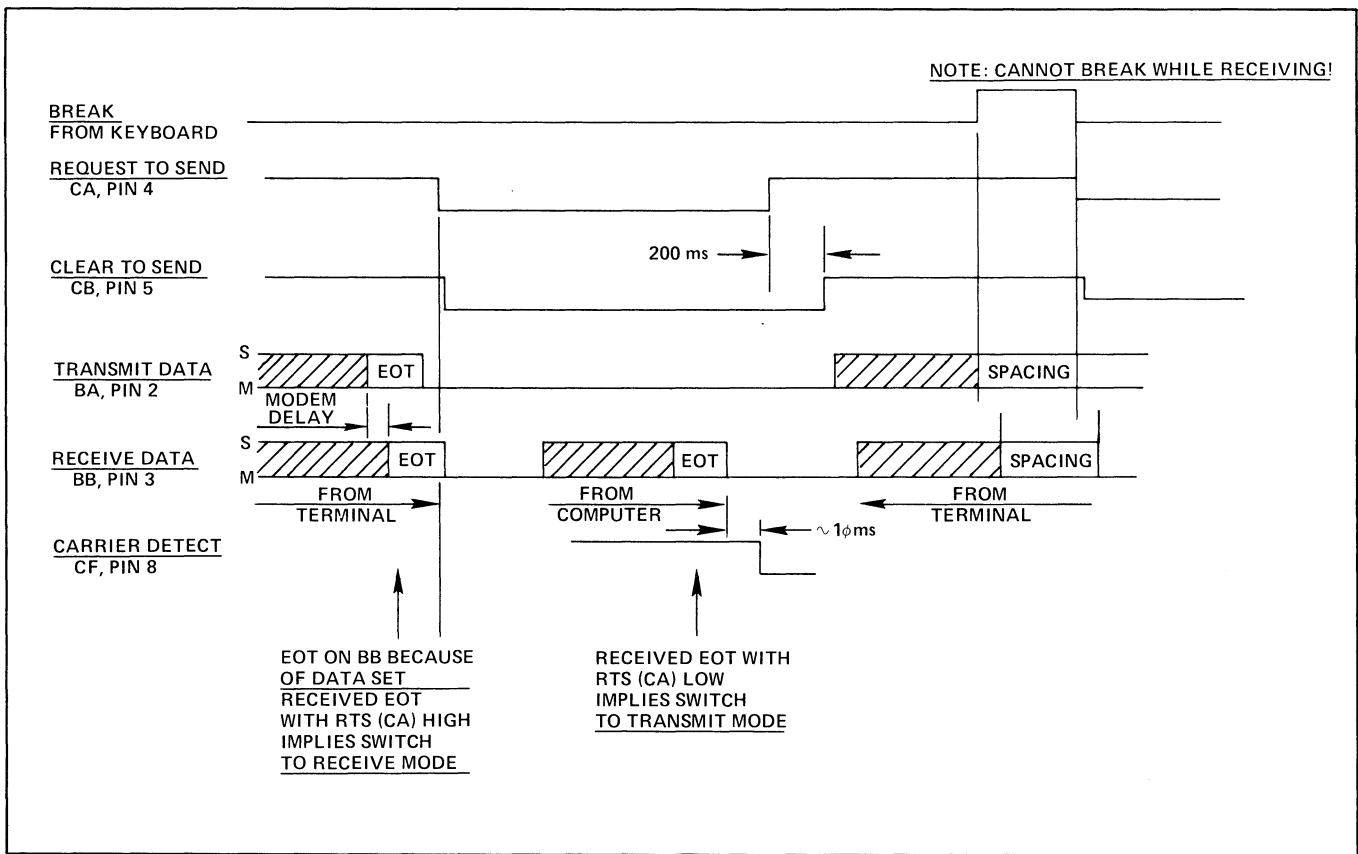

Figure 4-17. Interface Timing for Code Turnaround
**4.3.16.1 Code-Turnaround Control.** Either an ETX code or an EOT code may be selected to initiate turnaround, depending on the position of the ETX-EOT switch. When the selected code appears in the input data, LATCHED CODE is set. When CARRIER DETECT falls (figure 4-17), indicating that the remote end of the line has dropped, RTS is set.